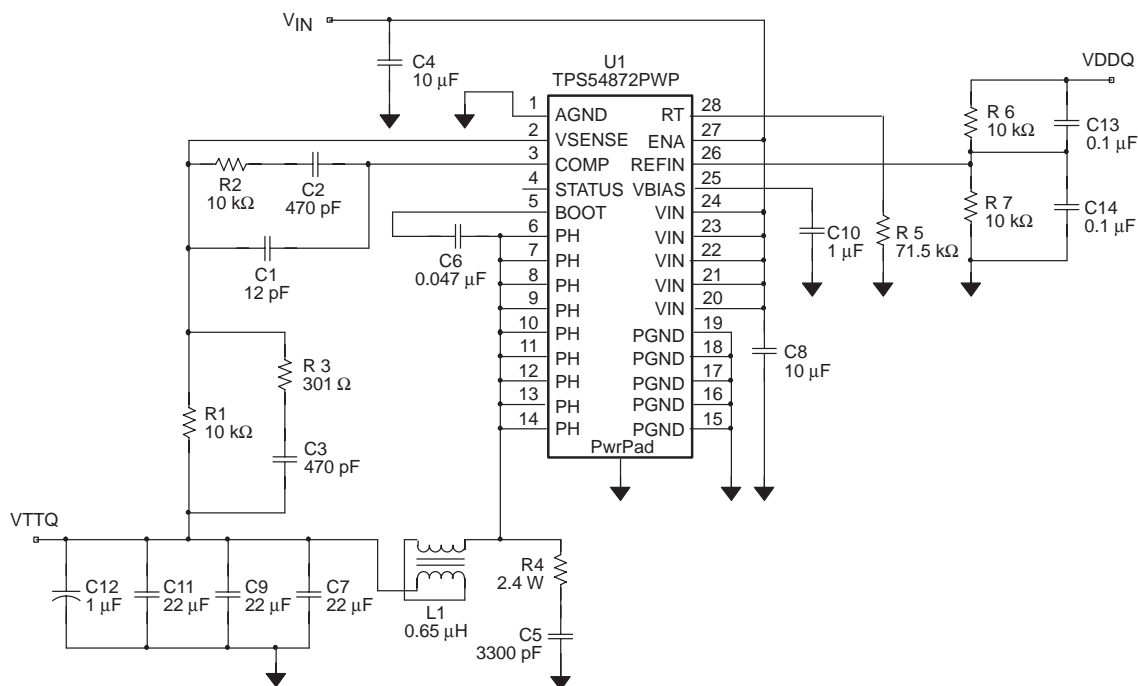

Figure 7. Application Circuit
(1) Specified by design
(2) Static resistive loads only
(3) Specified by the circuit used in Figure 7
(4) Matched MOSFETs low-side $r_{\text{DS(on)}}$ production tested, high-side $r_{\text{DS(on)}}$ production tested.
Figure 7 shows the schematic diagram for a typical TPS54872 application. The TPS54872 (U1) can provide up to 8 A of output current at a nominal output voltage of